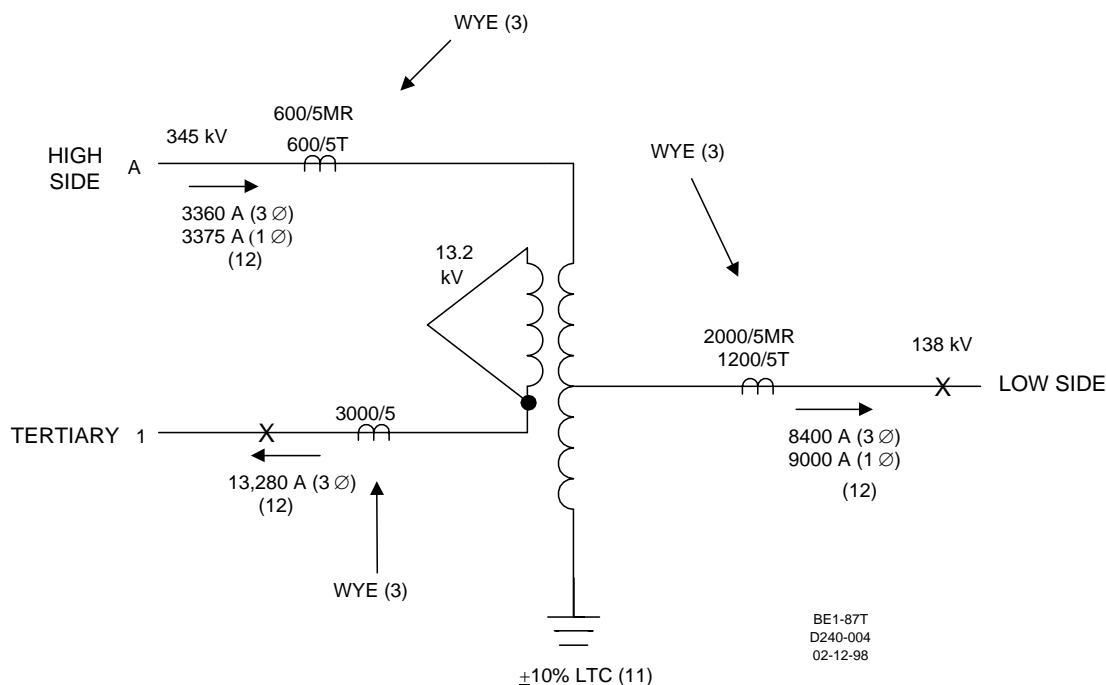

Figure 4-33. Application Example: Autotransformer With Tertiary Winding
Refer to Figure 4-33 for a one-line drawing of this example. Refer to Figure 4-32 for the three-line representation of this transformer.
Because of the grounded winding in this example, as shown in Figure 4-33 and 4-32, the high-side and low-side zero-sequence currents must be canceled.  $\Delta 2$  position is selected to align the High side and Low side secondary current phasors with the tertiary phasors which lead by  $30^\circ$  in this example:
**Step 12.** Determine the maximum CT secondary fault current for external faults ( $I_{F3}$  for three-phase, and  $I_{FG}$  for line-to-ground). Refer again to Figure 4-33 for this example. The maximum fault current is recorded for each set of terminals for all combinations of external faults.
Neglecting  $R_R$ , use  $R_L$  from Figure 4-33:
Neglecting  $R_R$ , use  $R_W$  and  $R_L$  from Figure 4-33: